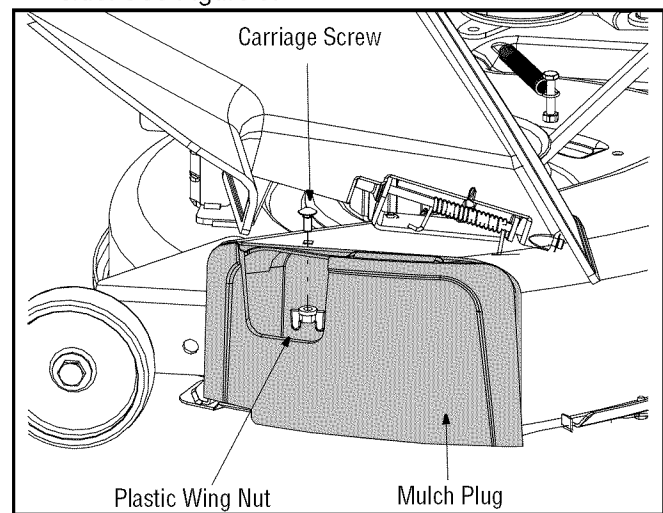

Figure 9
- To operate the cutting deck without mulching, simply remove the mulch plug by unthreading the plastic wing nut which fastens it to the cutting deck. This will allow the clippings to discharge out the side. See Figure 9.